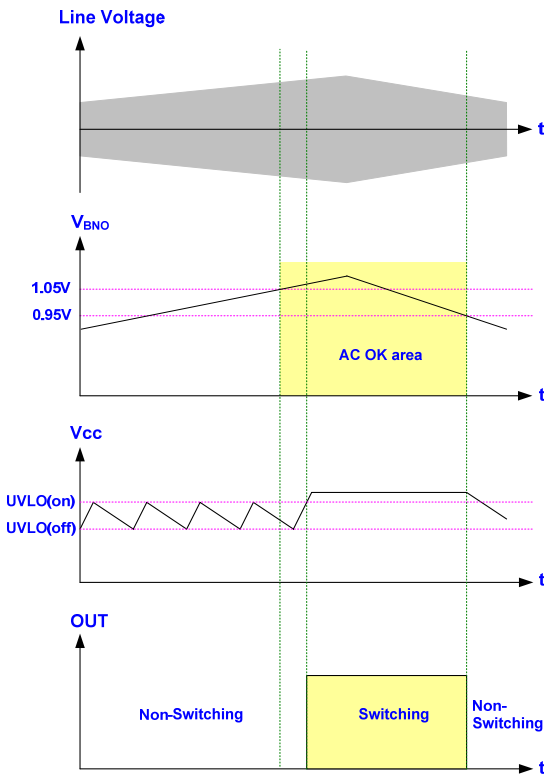
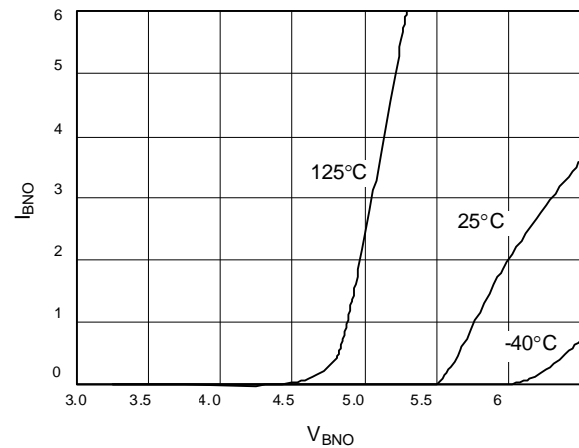

Fig. 19
Fig. 21 V_{BNO} vs. I_{BNO}
The voltage across the BNO pin is proportional to the bulk capacitor voltage, referred as the line voltage. A brownout comparator is implemented to detect the abnormal line condition. As soon as the condition is detected, it will shut down the controller to prevent the damage. Figure 19 shows the operation. When V_{BNO} falls below 0.95V, the gate output will be kept off even Vcc has already achieved UVLO(ON). It therefore makes Vcc hiccup between UVLO(ON) and UVLO(OFF). Unless the line voltage is large enough to pull V_{BNO} larger than 1.05V, the gate output will not start switching even when the next UVLO(ON) is tripped. A hysteresis is implemented to prevent the false trigger during turn-on and turn-off.
In order to protect BNO pin from being damaged during the dividing resistors floating, an internal zener diode is implemented in BNO pin. Fig. 19 shows the sinking capability of the zener diode. To protect BNO pin, the current flowing in BNO pin must be below $1.5\mu\text{A}$, as shown in Fig. 21.